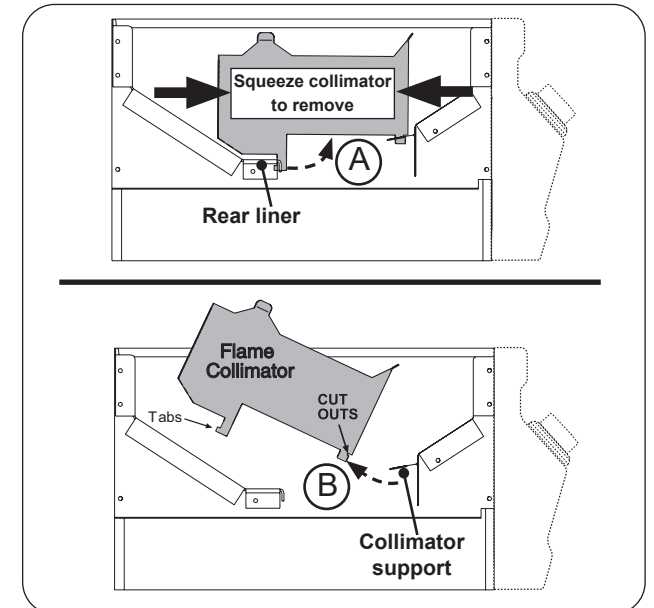

Fig. 39-2 Flame collimator removal
2. Lift up the interior protection plate from the left side, then lift up from the right side (see Fig. 39-2, A and B).
3. While lifting the plate upward, flex the collimator inward to completely free the protection plate (see Fig. 39-2, C).